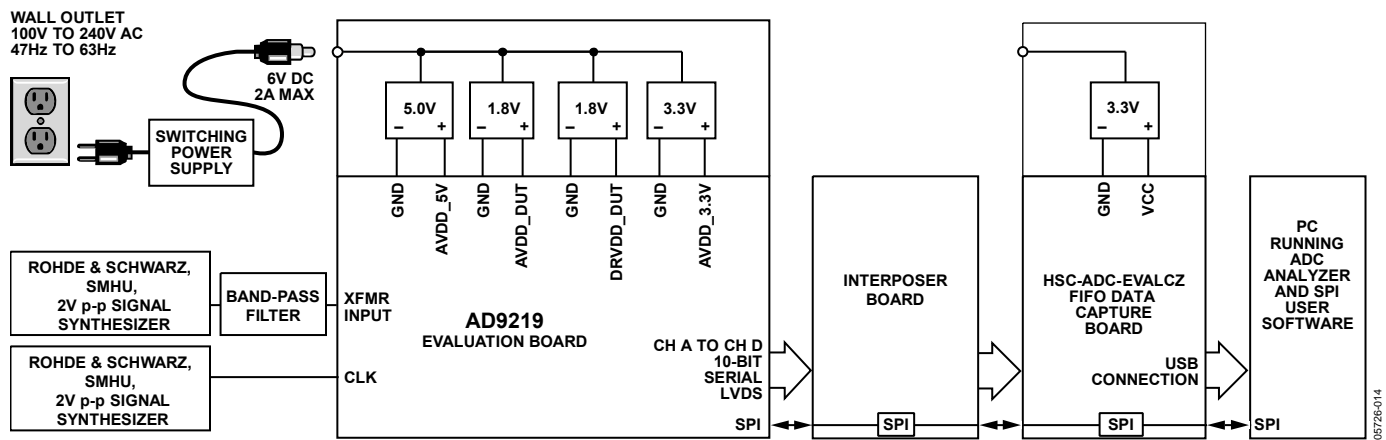
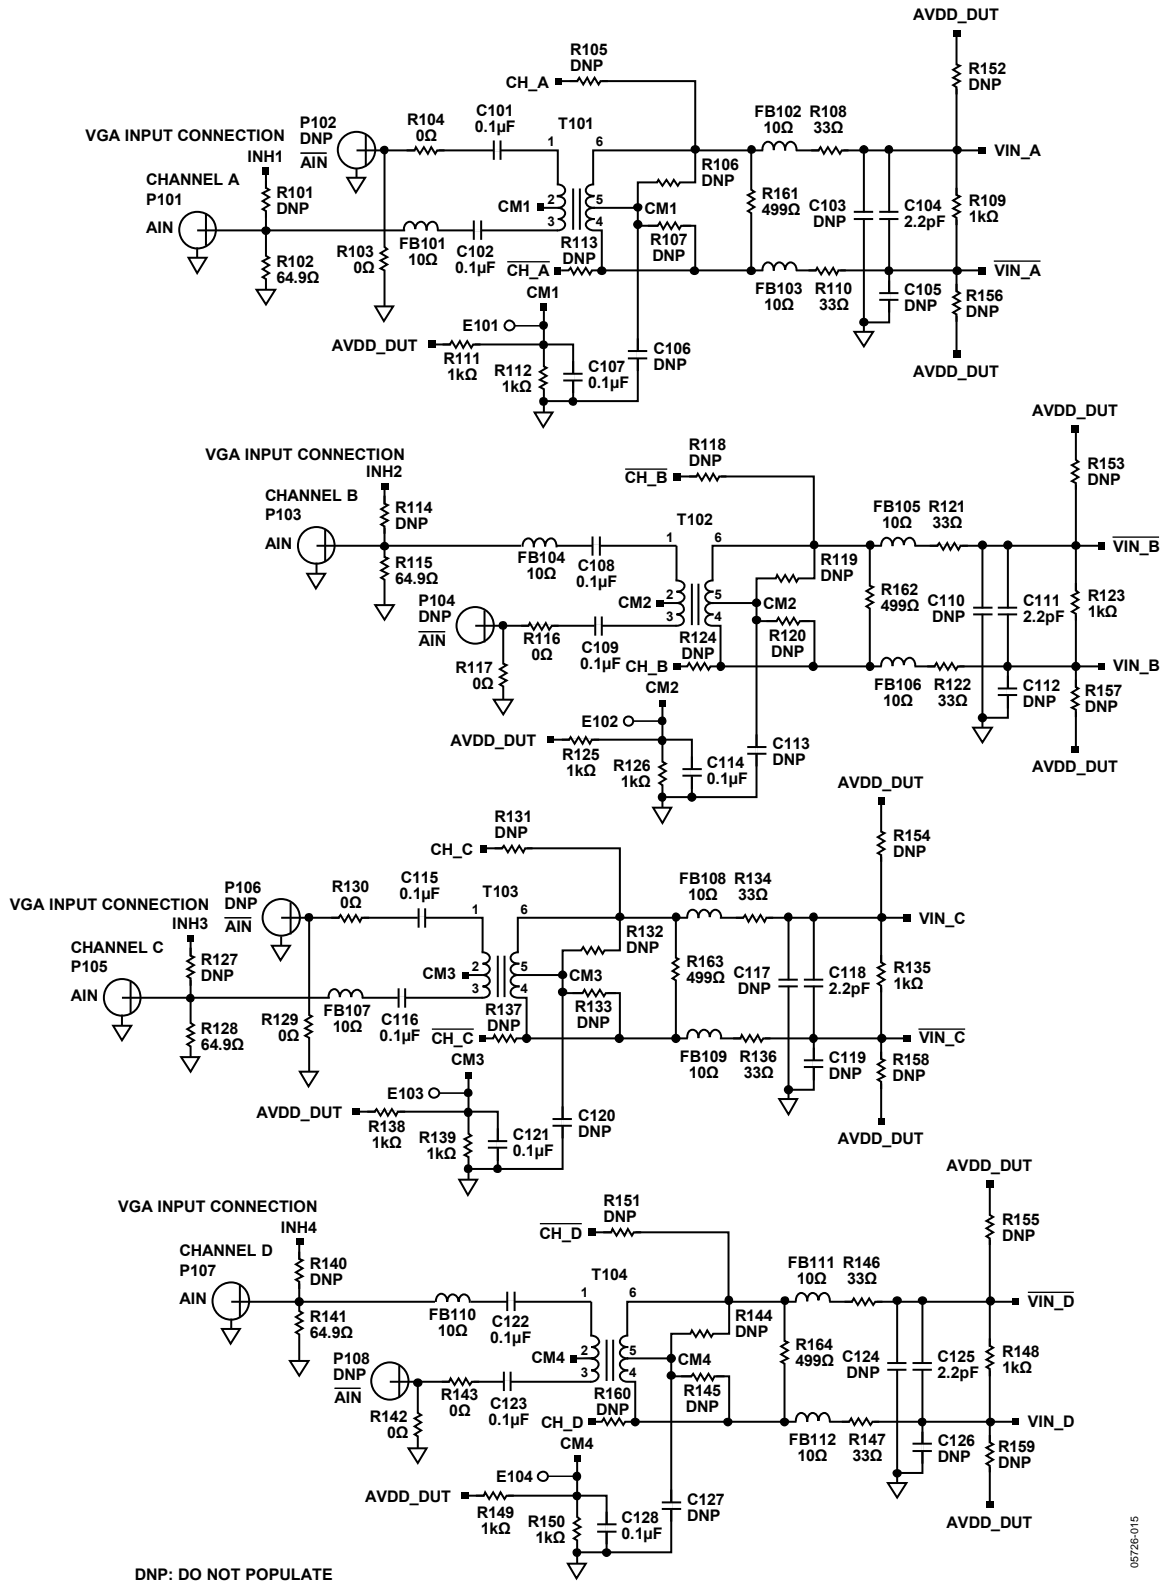
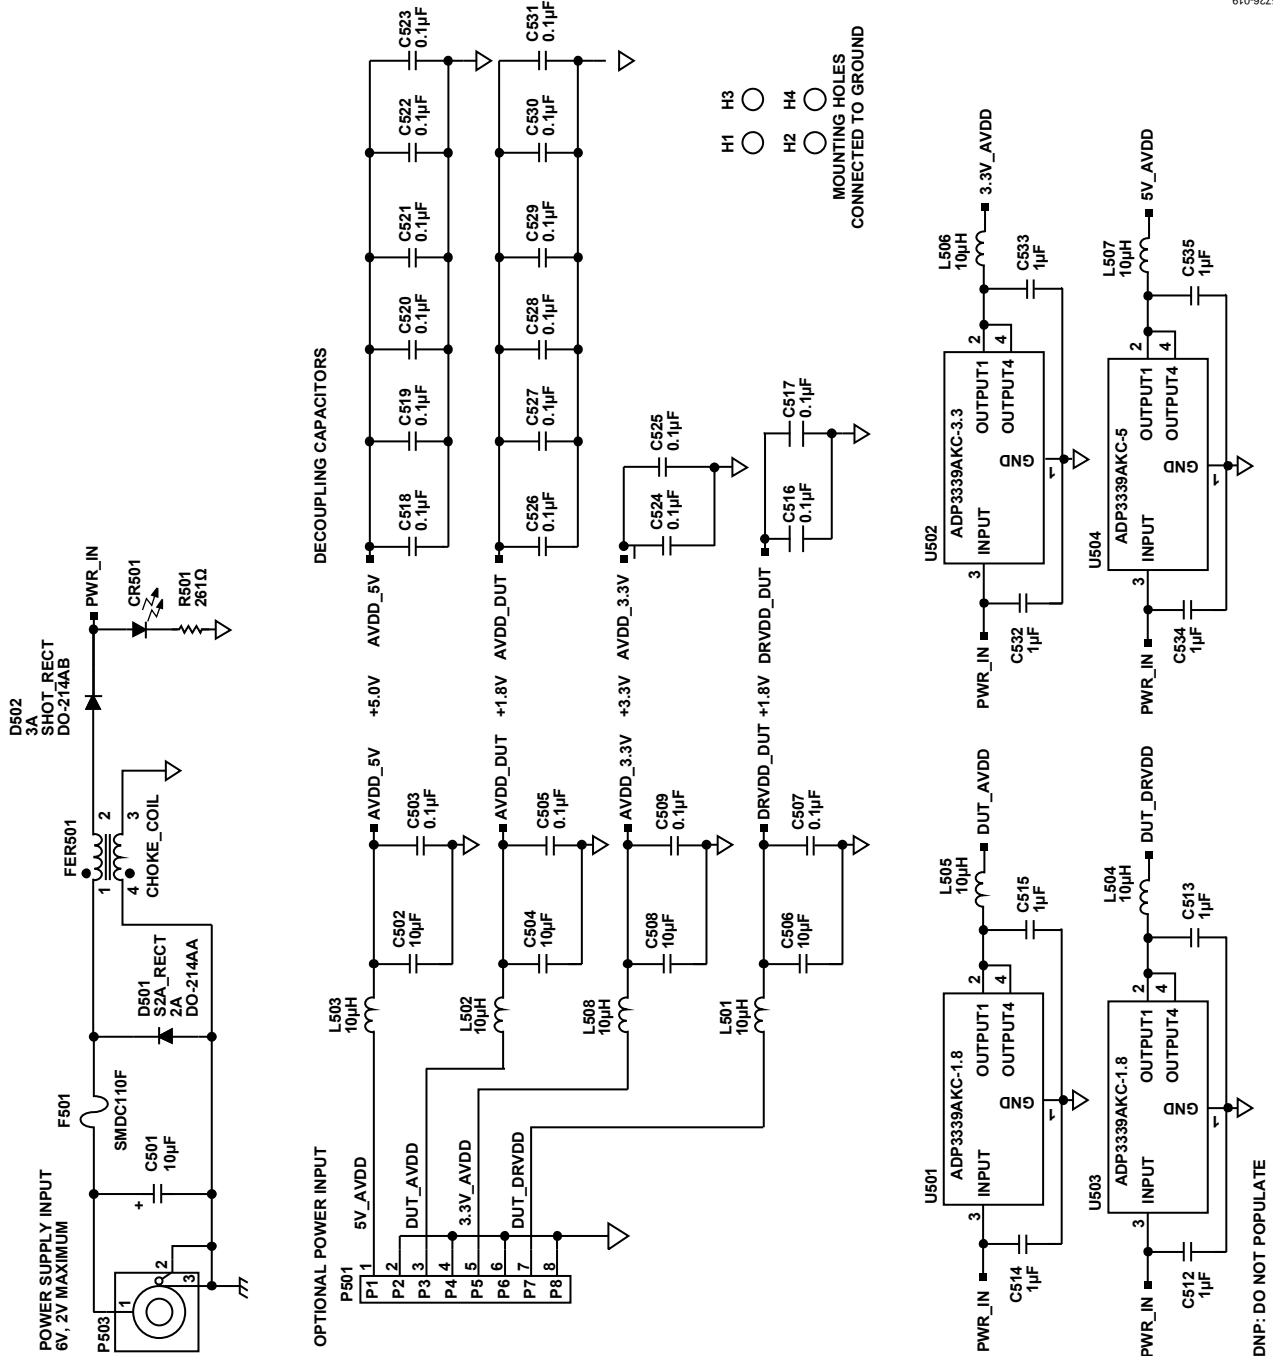

Figure 71. Evaluation Board Connection
Figure 73. Evaluation Board Schematic, DUT Analog Inputs
Figure 77. Evaluation Board Schematic, Power Supply Inputs
The AD9219 evaluation board provides all of the support circuitry required to operate the ADC in its various modes and configurations. The converter can be driven differentially using a transformer (default) or an AD8332 driver. The ADC can also be driven in a single-ended fashion. Separate power pins are provided to isolate the DUT from the drive circuitry of the AD8332. Each input configuration can be selected by changing the connection of various jumpers (see Figure 73 to Figure 77). Figure 71 shows the typical bench characterization setup used to evaluate the ac performance of the AD9219. It is critical that the signal sources used for the analog input and clock have very low phase noise ( $<1$  ps rms jitter) to realize the optimum performance of the converter. Proper filtering of the analog input signal to remove harmonics and lower the integrated or broadband noise at the input is also necessary to achieve the specified noise performance.
See Figure 73 to Figure 81 for the complete schematics and layout diagrams demonstrating the routing and grounding techniques that should be applied at the system level.
- **D + x, D - x:** If an alternative data capture method to the setup shown in Figure 73 is used, optional receiver terminations, R206 to R211, can be installed next to the high speed back-plane connector.